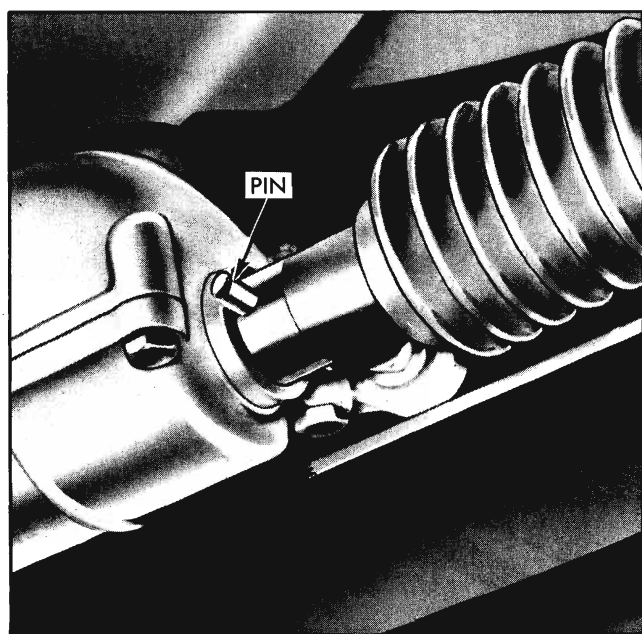

Fig. 7-12 Control Rod Alignment Pin
6. Install pin in control rod alignment hole and push control rod forward into gearshift lever and housing, until pin hits flange of housing (Fig. 7-12).